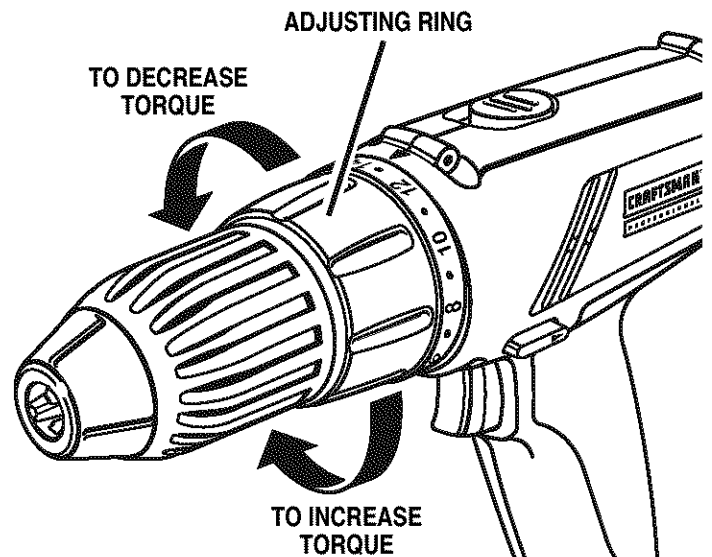

Fig. 13
- Identify the twenty four torque indicator settings located on the front of your drill. See Figure 13.